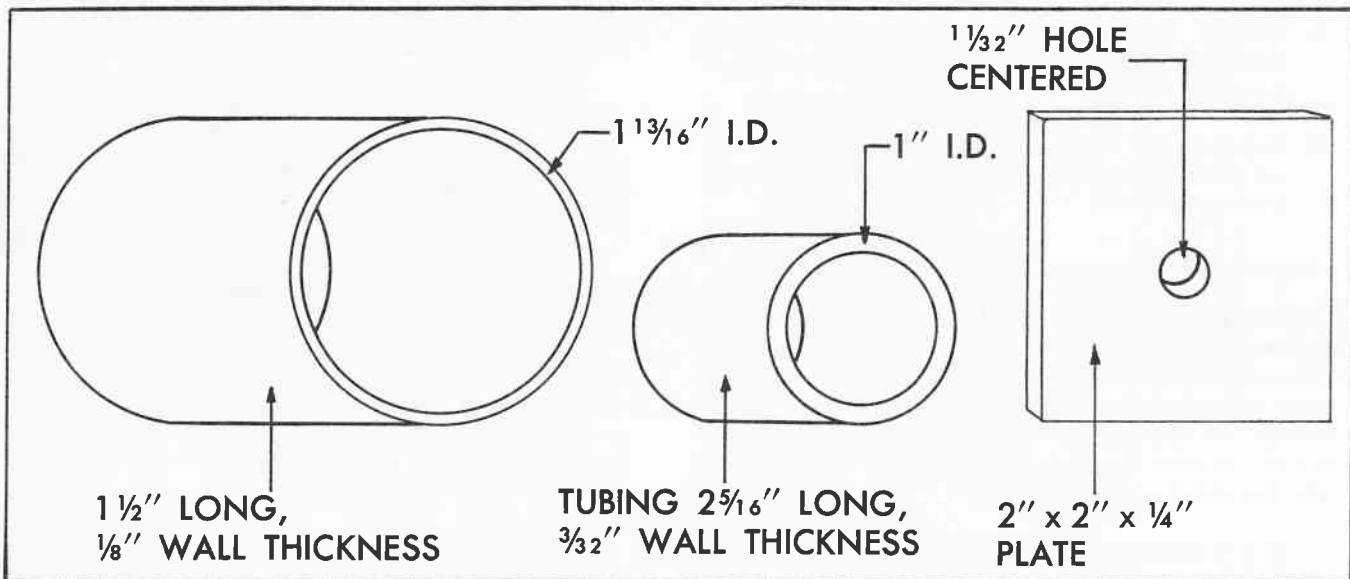

Fig. 6 Installation Tools For Compressor Shaft Seal Repair
1. Make installation tools as shown in Fig. 6.